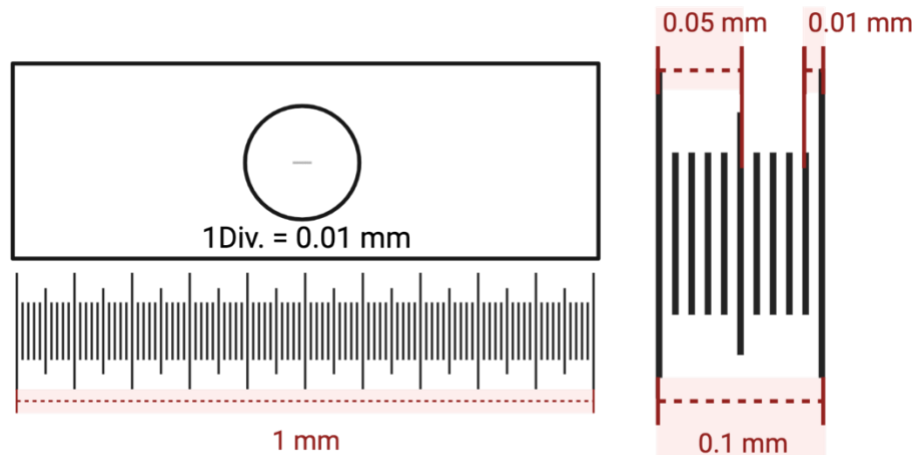

Figure 1-4 Calibration Slide Dimensions. Entire line is 1 mm with each large increment 0.1 mm apart and each of the smallest increments are 0.01 mm apart.
4. Draw a straight line of a known distance on your calibration slide image (See Figure 1-4)